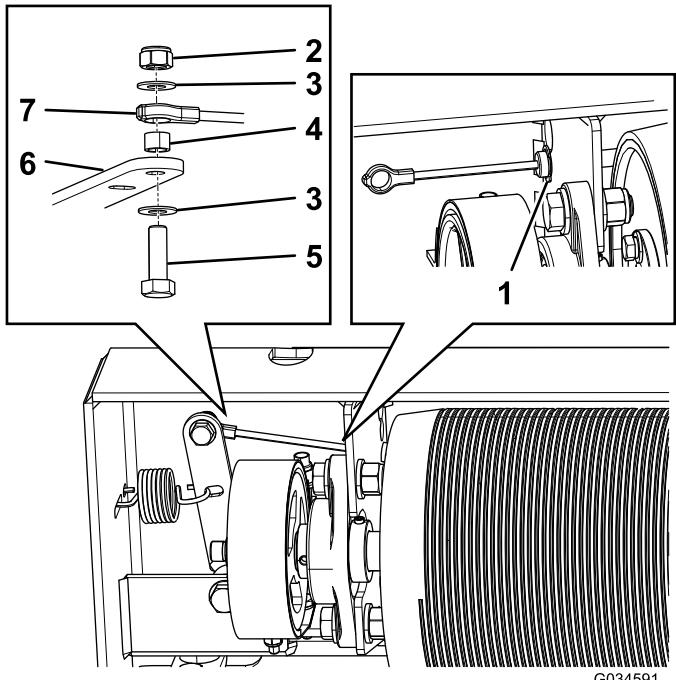

Figure 4
7. Remove the bolt, the nut, and the washers securing the other cable end to the parking-brake pivot under the machine (Figure 4).
8. Remove the retaining ring securing the cable housing to the machine frame (Figure 4).
5. Install the retaining ring on the cable housing to secure it to the machine frame (Figure 4).
6. Install the existing bolt, nut, washers, and bushing to secure the other cable end to the parking-brake pivot under the machine (Figure 4).